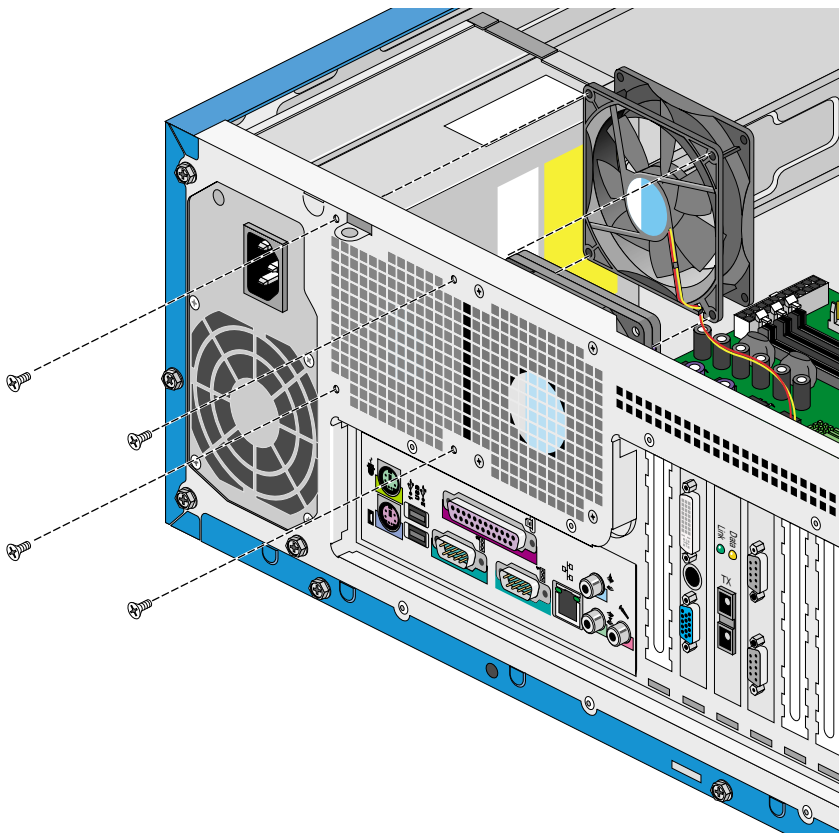

Figure 5-11 Unscrewing a Fan from the Chassis Rear
5. At the back of the node chassis, unscrew the four screws (one in each corner) that secure the fan to the chassis back; see Figure 5-11. Retain the screws for the replacement fan.